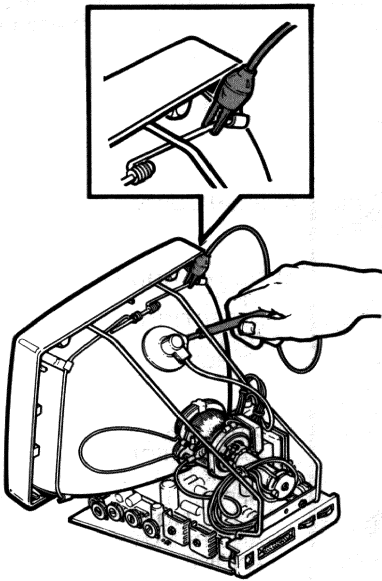

Figure 5-41 Discharging CRT Anode
- a. Clip the anode discharge tool to the wire frame of the monitor assembly as shown in Figure 5-41.
- b. Slide the tip of the anode discharge tool or test probe under the rubber boot, as shown in Figure 5-41. Hold for a *full 3 seconds*.